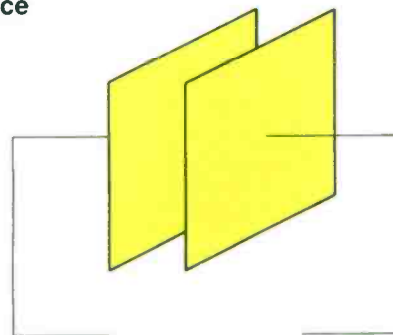

Fig. 1—Two metal plates are all that are needed to fabricate a basic capacitor, whose value depends on how far apart the plates are positioned from each other.
8). In this mode links L5, L6, and L7 are in, and links L3 and L4 are removed. Refer to Table 1. This circuit setup assures that the carry-out signal (pin 7) does not have any of the glitches that can appear in a parallel-clocked (synchronous) operation as shown in Fig. 1.
The 3-Digit Counter Module can be configured to operate as a simple frequency counter by using a few external components. The basic module can be wired in a parallel clocked (synchronous) mode as shown in Fig. 1.
3. (charging, discharging) The basic physical configuration of a capacitor is two conducting plates separated by an insulator, as shown in Fig. 1. The plates can be made of any conducting material. The insulator can be air, or a vacuum, or any one of many different kinds of insulating materials. The